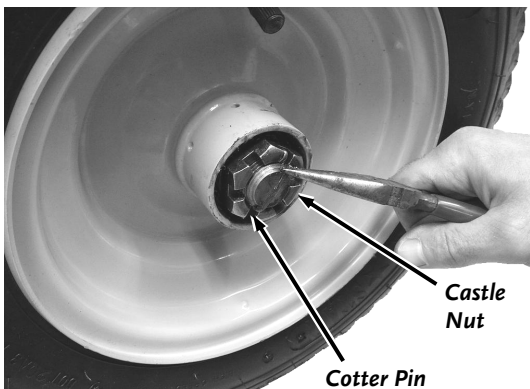

Figure 50
3. Remove the Cotter Pin, using Needle Nose Pliers (Figure 50).
6. Screw the Castle Nut onto the Axle and tighten it with an Adjustable Wrench to seat the Bearings (Figure 50).